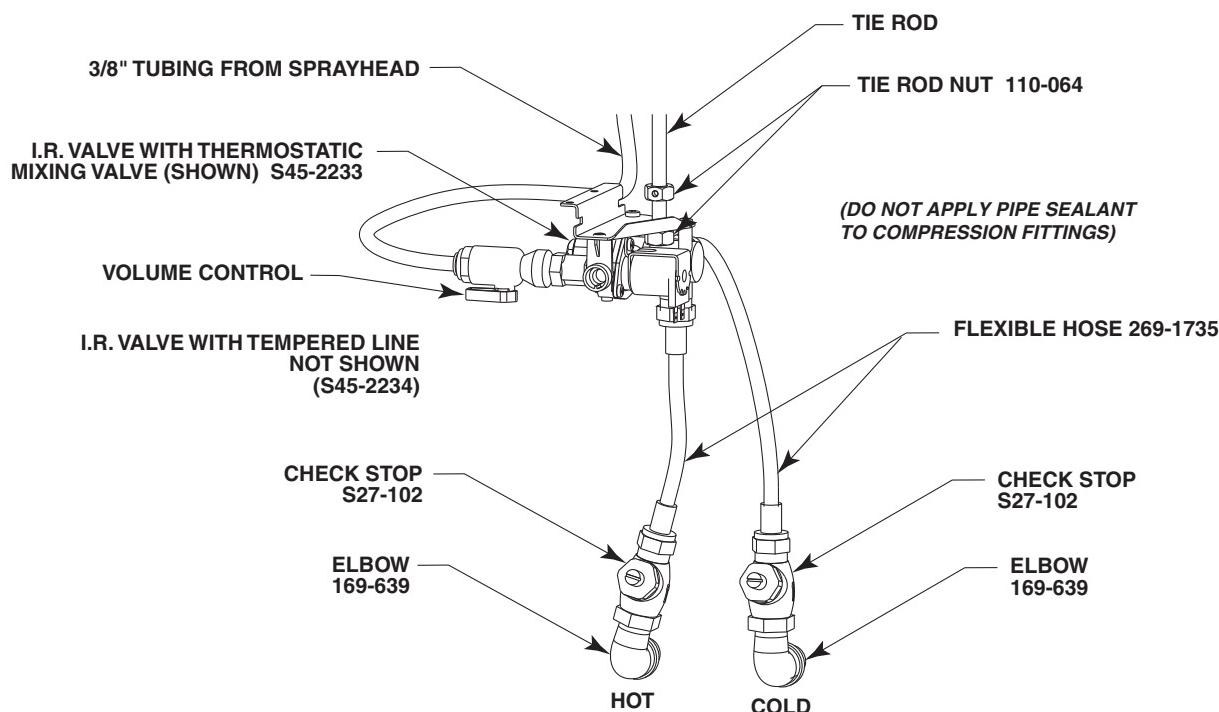

Figure 9a
- A** USING PIPE THREAD SEALANT, THREAD SUPPLIED 1/2" STREET ELBOWS INTO THE 1/2" ANGLE SUPPLY STOPS (SEE FIGURE 9A, PAGE 12)
F HOLDING THE VALVE ASSEMBLY OUTSIDE OF PEDESTAL, CONNECT 3/8" TUBING FROM SPRAYHEAD TO VALVE ASSEMBLY TUBE CONNECTOR (SEE FIGURE 9A ON PAGE 12).
G THREAD ONE SUPPLIED 3/8" NUT ONTO THE TIE ROD. SLIDE VALVE ASSEMBLY ON NEXT AND SECURE WITH ANOTHER 3/8" NUT. SEE FIGURE 9A.